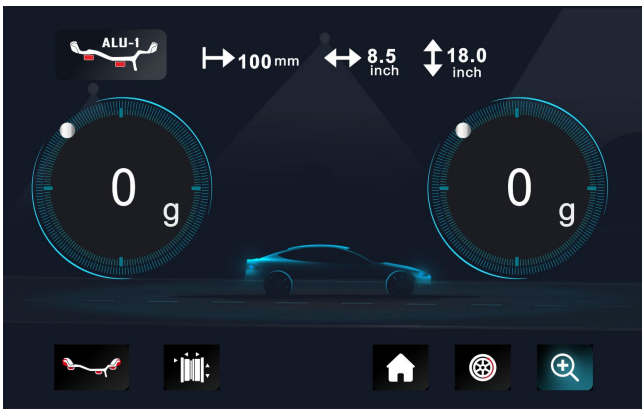

Fig. 8
4.2.7. After finishing mounting the counterweights, put down the guard and press , to perform balancing spin again, if comes out 00 00, means balancing succeed. (Fig.8)